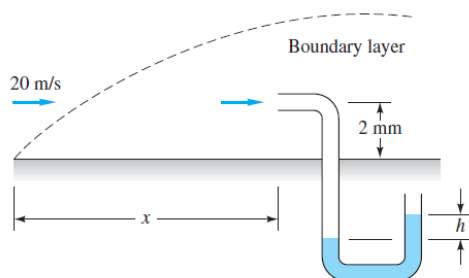

Fig. 7.5
7.5 Air at 20°C and 1 atm flows at 20 m/s past the flat plate in Fig. 7.5. A pitot stagnation tube, placed 2 mm from the wall, develops a manometer head $h = 16$ mm of Meriam red oil, $SG = 0.827$. Use this information to estimate the downstream position x of the pitot tube. Assume laminar flow.